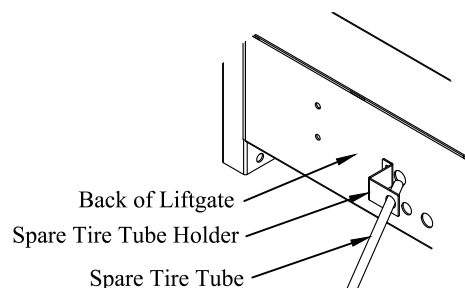

Figure 10: Spare tire tube holder.
3. **Position** the spare tire tube holder on the spare tire tube (Figure 10).
5. **Position** the spare tire tube holder against the liftgate (Figure 10). The spare tire tube should extend through the 1" hole of the tube holder.
6. **Mark** two (2) 1/4" hole locations on the liftgate using the tube holder as a guide.
8. **Drill** two (2) 1/4" holes in the positions previously marked.
9. **Fasten** the tube holder with the supplied two (2) 1/4" hex bolts and nuts.